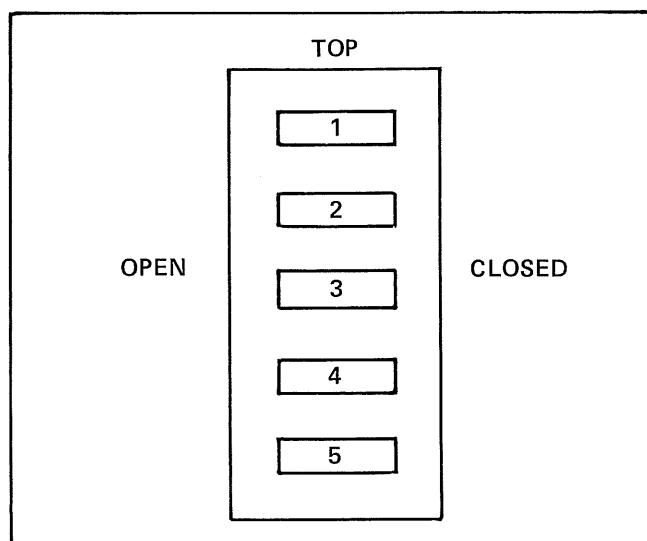

Figure 7-2 Switch A8S2 Labeling
- C. Switch A8S2 is not numerically labeled. For the purposes of this procedure, assign numbers to the switch positions as shown in Figure 7-2 below.